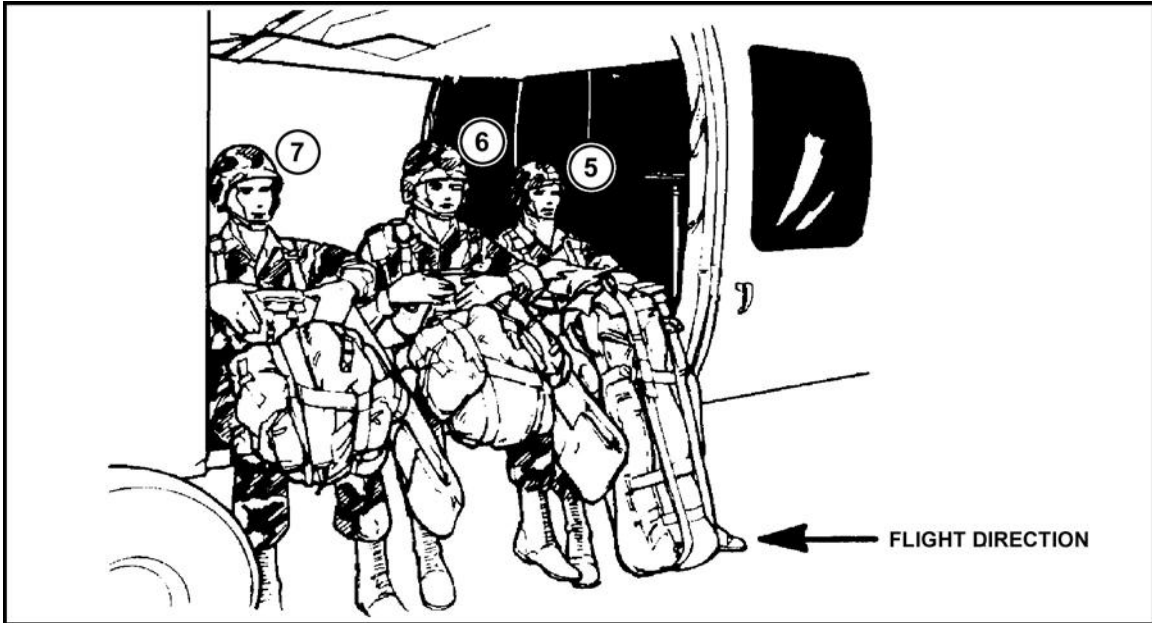

Figure 17-14. Parachutists (left door) with safety belt secured.
(2) Numbers 5 and 7 pass the running ends of their safety belt to number 6, who fastens the belt and removes excess slack (Figure 17-14, page 17-15).